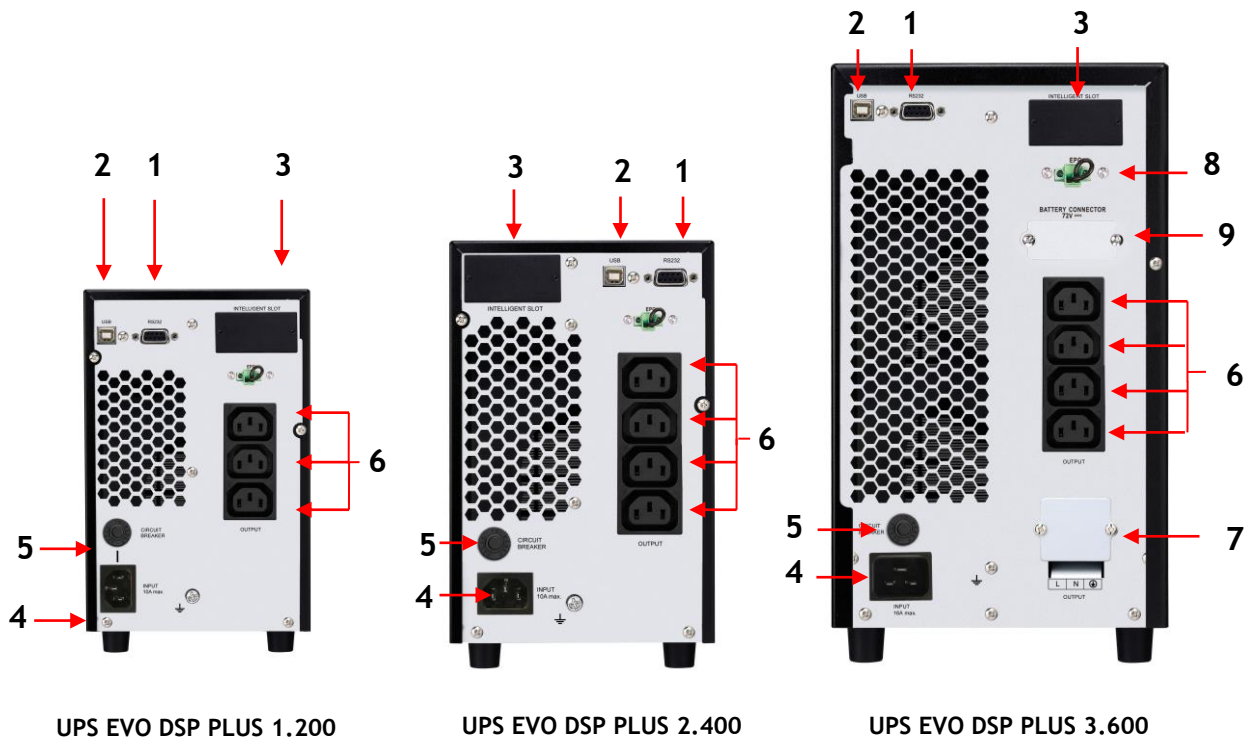

Figure 4 - Rear Side
UPS EVO DSP PLUS models have the EPO (Emergency Power OFF) connector on the rear side, (see figure 4).
1. Through the included power cable connect the UPS Input socket to the AC line outlet (see figure 4). It is **mandatory to ground the AC line outlet according to the Safety Standards**. Carefully check the grounding of AC line outlet.
- 3.1. Remove the metal cover (#7) on the rear side (see figure 4) to access to the Battery Box Connector.